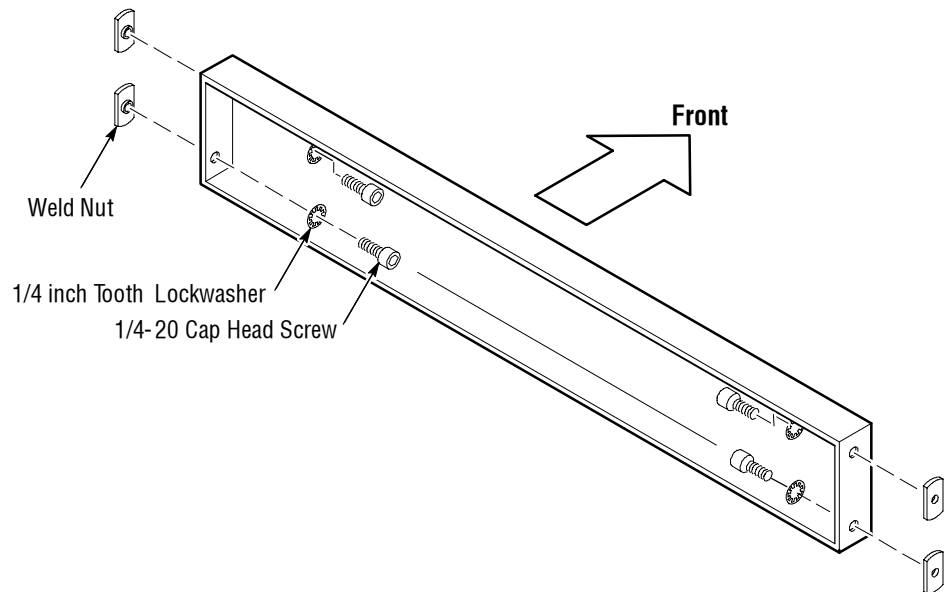

Figure 3: Preparing the Strut for Base Assembly
1. Prepare the strut as shown in Figure 3. Position the weld nut with the raised threaded flange toward the strut. Leave each screw assembly loose; do not screw the weld nut onto the cap head screw more than one full turn.